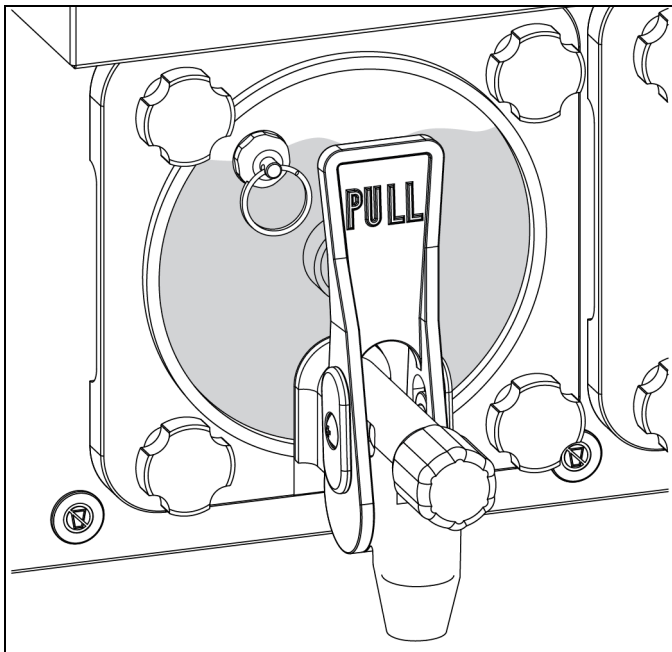

Figure 6-28
8. See Figure 6-28 for approximate liquid level